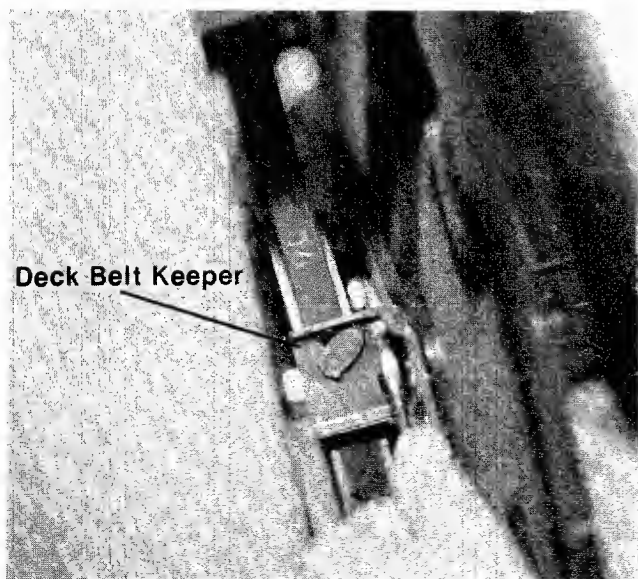

FIGURE 21. REMOVAL OF DECK BELT KEEPERS
- Step 3. Remove two belt keepers at the deck pulley and shoulder bolt. See figures 21 and 22.